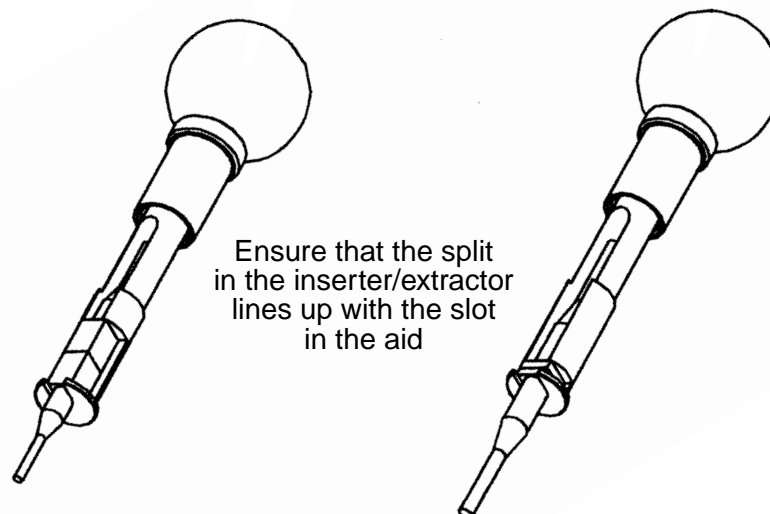

Figure 7 - NPN-1024 Inserter/Extractor Aid
- Step 2. Place the wire in the groove of the insertion tool (coloured end) and pull the wire back until the tip of the tool touches the contact shoulder. Except for Number 8 contacts and Number 20 contacts being inserted into DMA or D*MAM rectangular connectors, insert contacts using the plastic insertion tools supplied with the connector. Number 8 contacts do not require insertion tools as the wire itself provides sufficient support to push the contact into the connector. Number 20 contacts can be inserted into D*MA or D*MAM type rectangular connectors by hand due to the low insertion forces required. When inserting unwired contacts in circular connectors, place the contact in the insertion groove of the tool so that the tip of the tool seats against the contact shoulder. If an insertion tool did not come with the connector, insert the contact using the insertion tool specified in Table 4. It is recommended that an NPN-1024 inserter/extractor aid be used with the insertion tool; assemble the NPN-1024 inserter/extractor aid with the contact insertion tool as shown in Figure 7.